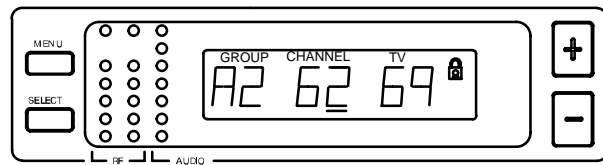

FIGURE 33
5. A small “lock” symbol will appear in the upper right corner of the status screen displays, as shown in Figure 33. The lock symbol indicates the receiver is in the lock mode.